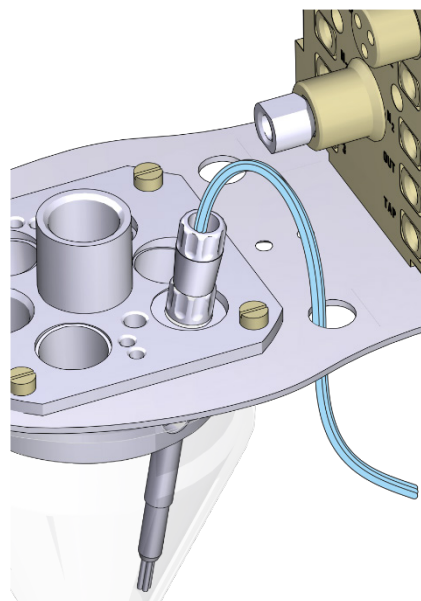

Fig. 12: Installation of the four way micro dosing tip
- The four-way micro dosing tip (6.1824.000) is guided through the opening on the right side (see Fig. 12).